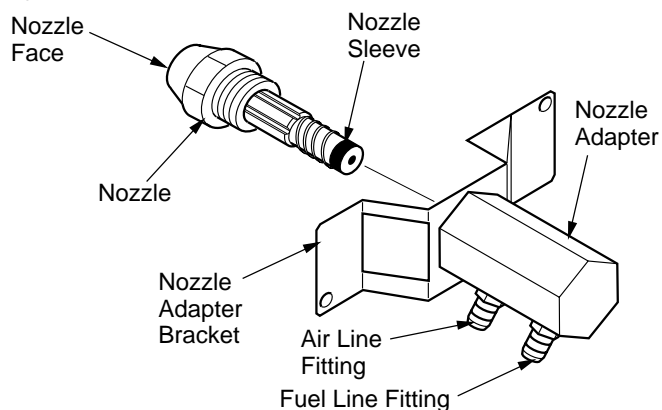

Figure 21 - Nozzle and Nozzle Adapter
5. Carefully remove nozzle from nozzle adapter using 5/8" socket wrench (see Figure 21).